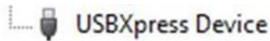

**Figure 17**
1. Open the Device Manager and select update driver software (see figure 17).